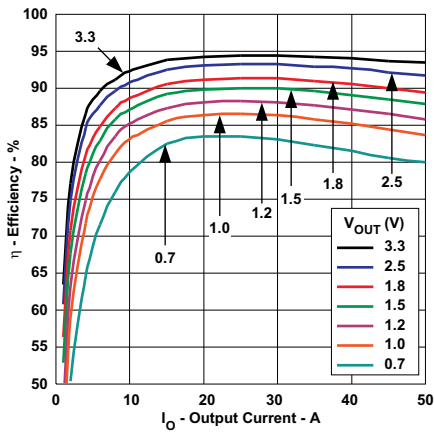
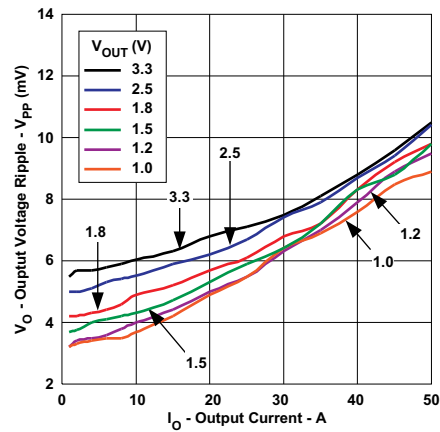
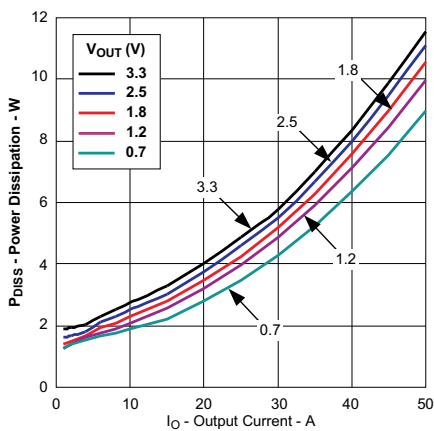

Figure 1. Efficiency versus Output Current
Figure 2. Output Ripple versus Output Current
Figure 3. Power Dissipation versus Output Current
- (11) The electrical characteristic data has been developed from actual products tested at 25°C. This data is considered typical for the converter. Applies to Figure 1, Figure 2, and Figure 3.